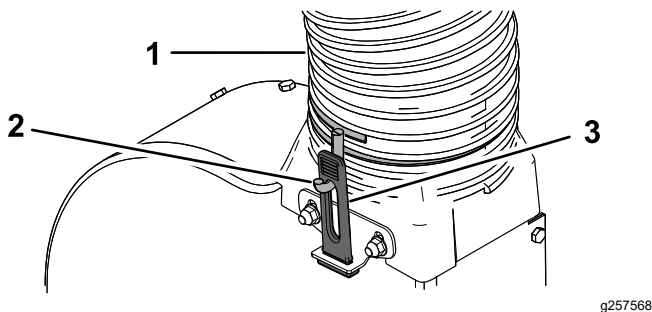

Figure 20
2. Thread the hose clamp onto the other end of the new hose 2 to 3 turns (Figure 20).
3. Install the hose over the blower transition so that the hose forms an approximately 90-degree bend from the hood. Adjust the orientation of the hose-clamp hooks as needed so that they align with the rubber latches, and secure the hose by stretching the rubber latches over the hooks (Figure 20).